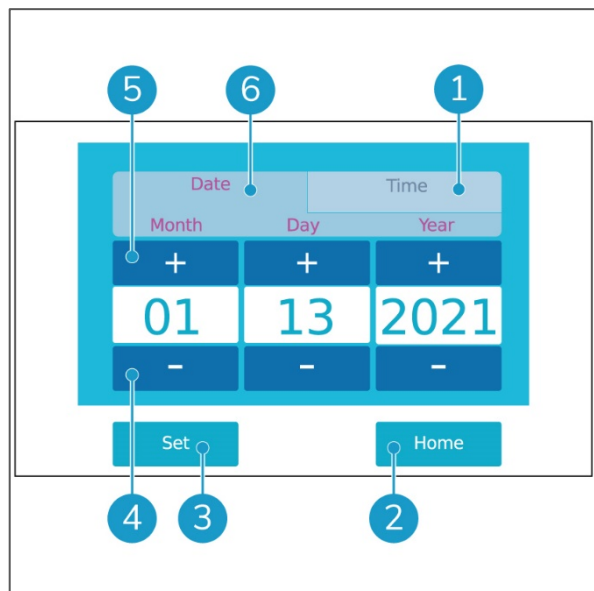

Figure 21
2. The date and time overview opens (Figure 21).
Time; touch the Time tab (Figure 21, pos 1);
Date; touch the Date tab (Figure 21, pos 6).
4. Use the plus buttons (Figure 21, pos 5) and minus buttons (Figure 21, pos 4) to adjust the date and time as needed.
5. Touch the set button (Figure 21, pos 3) to confirm the new date or time.
6. Touch the home button (Figure 21, pos 2) to go back to the main screen.